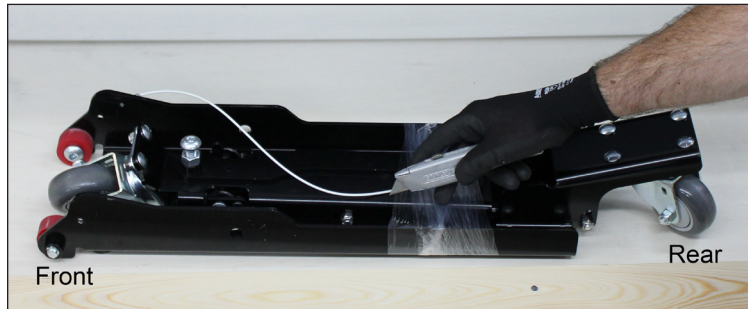

Figure 5: Remove Plastic Wrap from Caster Base
2. Use a utility knife to cut through the plastic wrap around the caster base assembly. Refer to **Figure 5**.